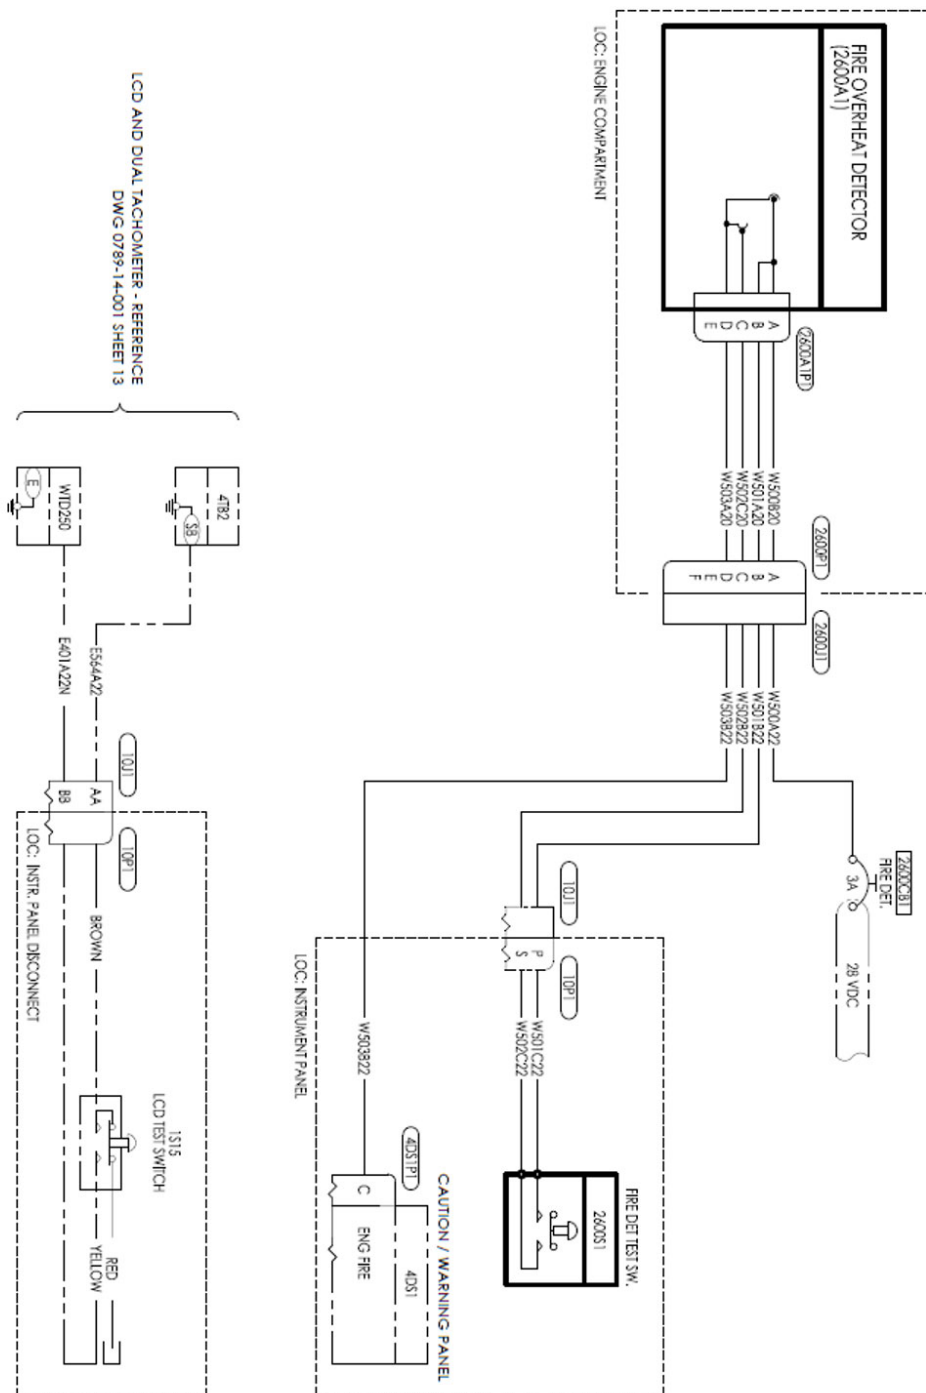
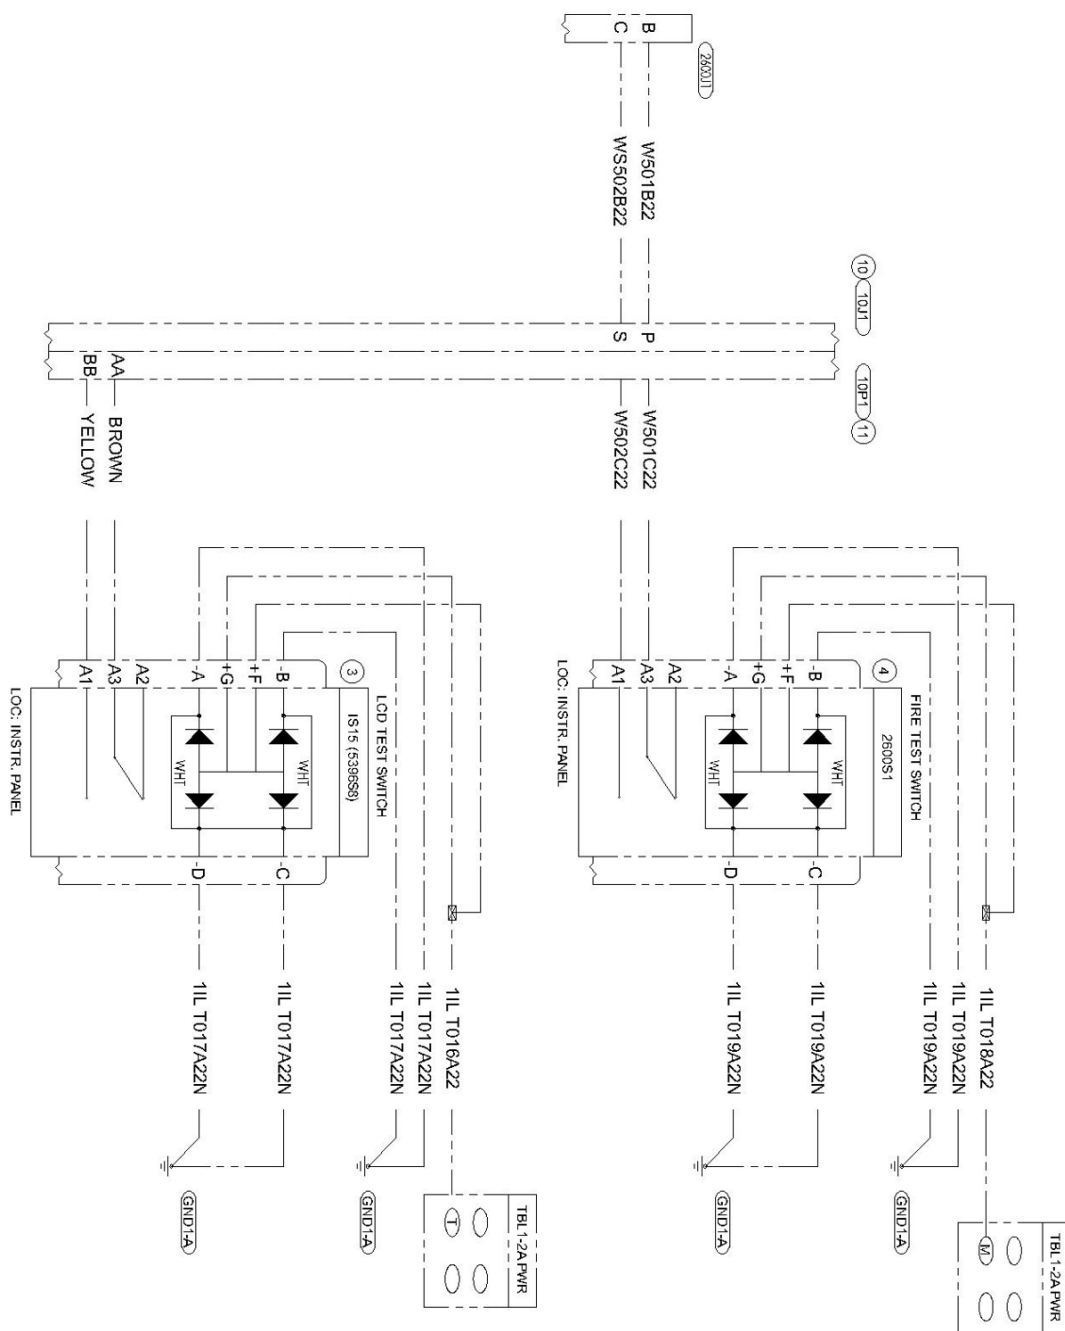

**Figure 3 POST TB - FADEC WIRING DIAGRAM**
**Figure 5 PRE TB - FIRE DETECT AND LCD TEST SWITCH WIRING DIAGRAM**
2. Install the NVIS compatible FADEC RESET switch, FIRE DETECT TEST switch, and CHIP DETECT TEST switch IAW Section 7.1 of IIN-E407-789 and IAW Figure 3, Figure 4, and Figure 6 of this Bulletin. Figure 2 and Figure 5 are provided for reference only.